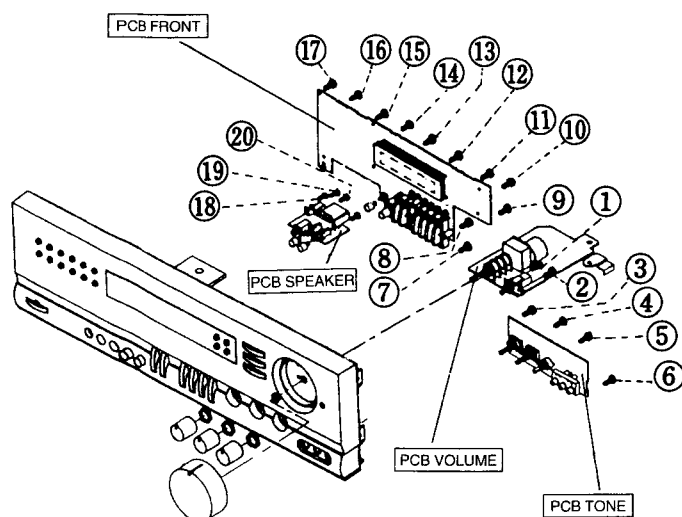

Figure 4
### 4 Volume PC Board Removal (Figure 4)
### 5 Tone P.C Board Removal (Figure 4)
4. Remove 4 screws (③ and ⑥) from the Tone P.C Board.
**[6] Front P.C Board Removal (Figure 4)**
2. Remove 11 screws (⑦ from ⑰) to release the panel front.
**[7] Speaker P.C Board Removal (Figure 4)**
2. Remove 4 screws (⑱ and ⑳) from the panel front to release the Speaker P.C Board.